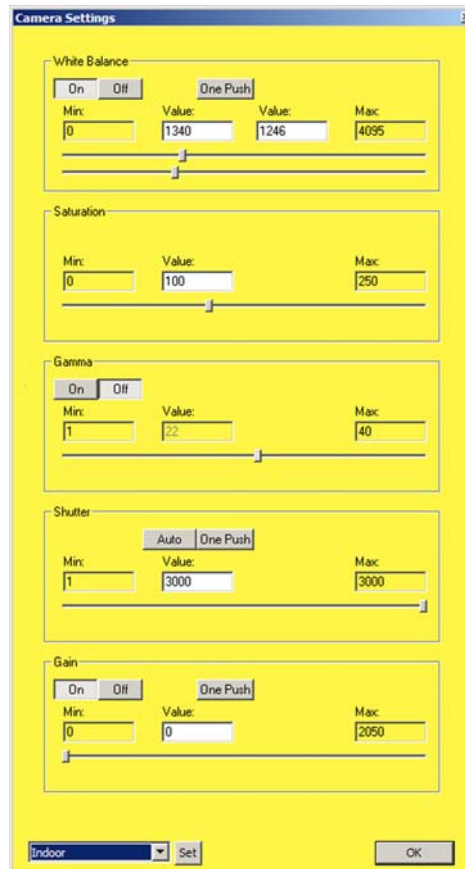

Figure 98: Camera Settings window
1. Select **Tools > Camera Settings**. The Camera Settings window appears (Figure 98).